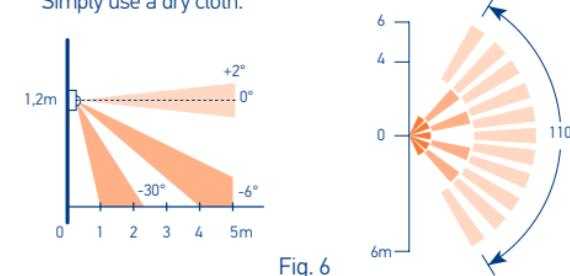

Fig. 6
- The area of operation max 5m width detection 110 ° (Fig. 6)